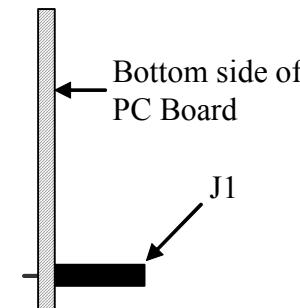

Figure 5-7
- The front panel attaches to the RF board via J1, a 20-pin single-row female connector. **Install J1 on the bottom side of the board** (Figure 5-7). Solder just two pins, one at either end.